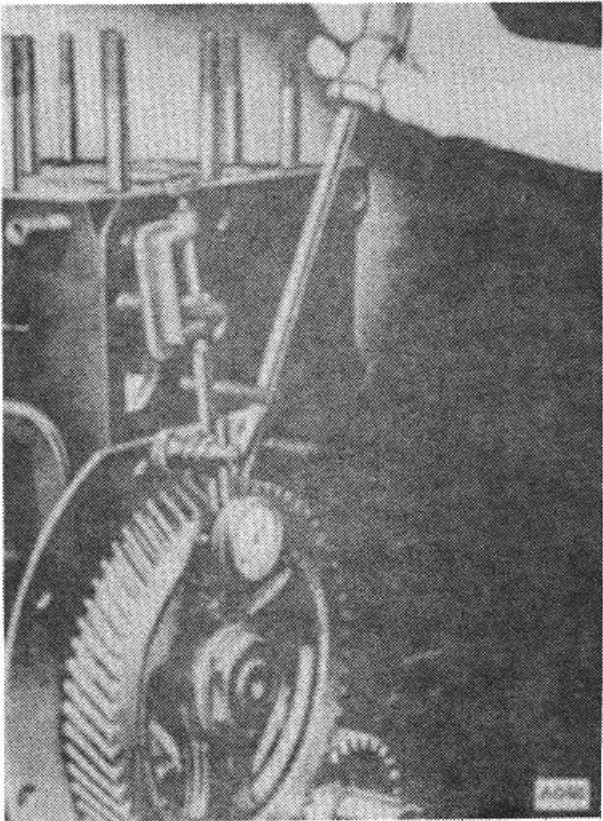

Figure 47.
7. Assemble the cam gear to the camshaft. Hold the camshaft forward so there is no possibility of its bumping the expansion plug at the rear end, forcing it out of position, and causing an oil leak. Check end play. (Fig. 47)